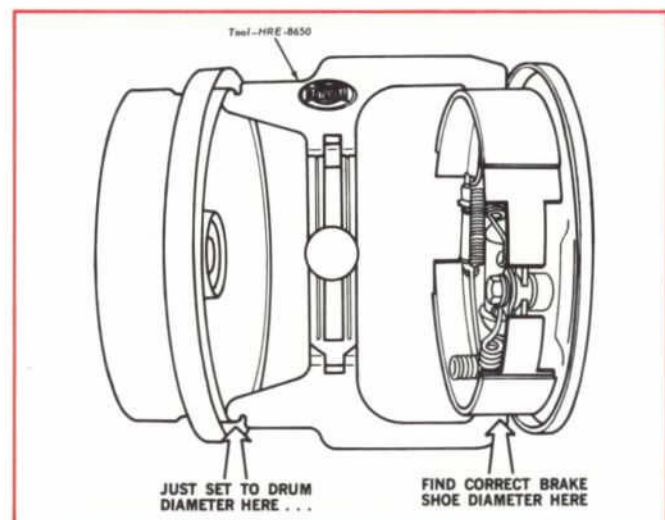

Figure 17—Measuring Brake Drum and Shoe
1. Use a tool such as Rotunda Tool HRE 8650, (Fig. 17) to determine the inside diameter of the drum braking surface.
2. Reverse the tool as shown in Fig. 17 and adjust the brake shoe diameter to fit the gauge. Hold the automatic adjusting lever out of engagement while rotating the adjusting screw, to prevent burring the screw slots. Make sure the adjusting screw rotates freely. If necessary, lubricate the adjusting screw threads with a thin, uniform coating of high temperature molybdenum disulfide grease.